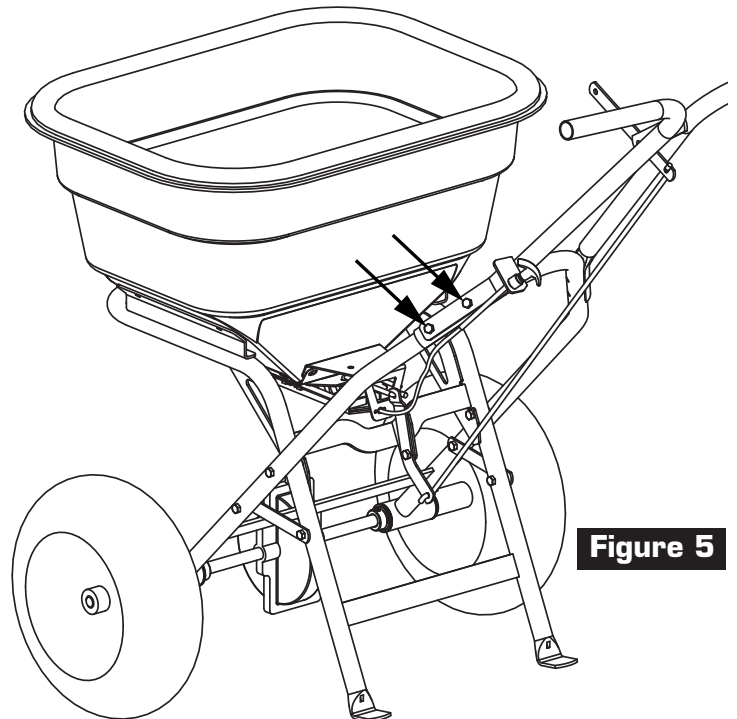

Figure 5
7. Install handle to frame as shown using 1/4" x 1-3/4" Bolts and Locknuts. NOTE: You'll need to orient and install the cable bracket as shown on the left side of the spreader, Figure 5.